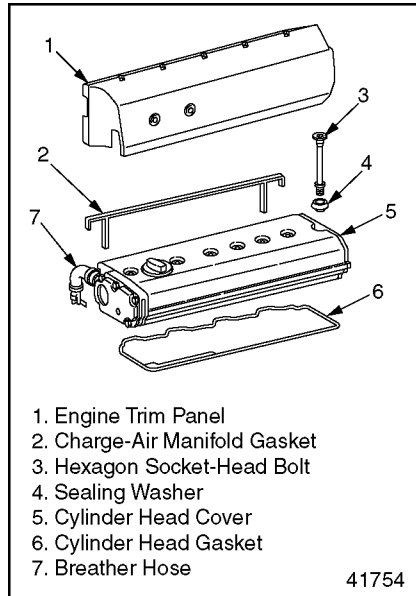

Figure 39 Cylinder Head Cover
1. Install the cylinder head cover. See Figure 39.